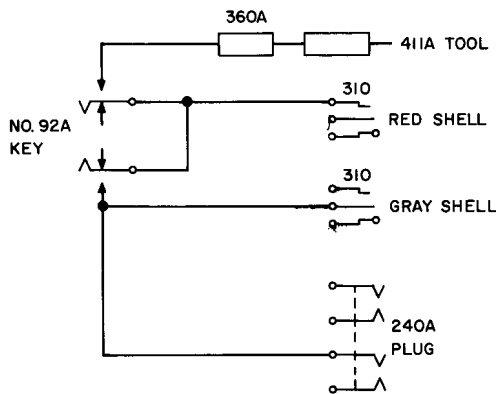

Fig. 1—
2.12 Test cord, shown in Fig. 1, to be made up locally, consisting of one 92A key, one 893 cord (1W13B cord) with one 360 tool removed, one W1W cord (1W17A cord) with the 59 cord tip removed, one W1B cord (1W5B cord) with the KS-6780 clip removed, and one 411A tool (for connecting ground to A relay and to the commutator segment of the trunk finder).
12 Insert red-shelled plug of special test cord shown in Fig. 1 into 48-volt battery supply jack.